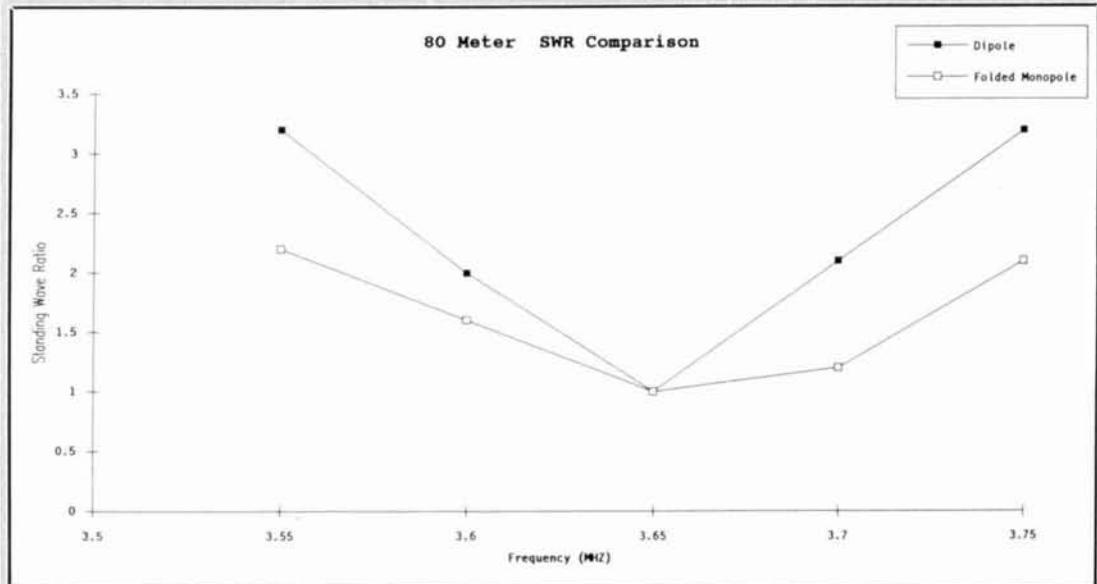

Figure 1B. 80-meter SWR comparison.
itizers take samples of the waveform at evenly spaced intervals and store these amplitude values in memory (**Figure 1B**). If the signal is sampled often enough, the waveform can be reconstructed from the samples (as in a digital-to-analog converter). If the signal is sampled too slowly, it will be impossible to reconstruct the original analog signal (**Figure 1C**). The Nyquist criterion states that the minimum sampling frequency is at least twice that of the signal to be sampled. Note that the Nyquist criterion assumes a perfect system. In reality, the sampling frequency should be three or four times the highest frequency to be digitized.¹
•**Quantization noise.** Most of the inexpensive digitizer systems convert analog data to an 8-bit format. That is, the sound amplitude is restricted to a range of integers from 0 to 255. Smooth waves, even when digitized at high sampling rates, become jagged (**Figure 1B**). The effect is to introduce “quantization noise” in the digitized waveform.